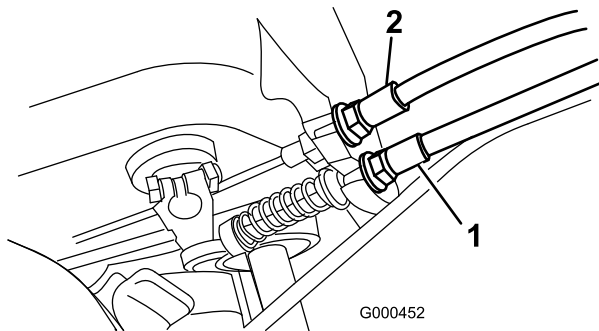

Figure 49
2. To increase cable tension, loosen front cable jam nut and tighten back cable jam nut (Figure 49) until a force of 10-13 lb. is required to engage traction control.